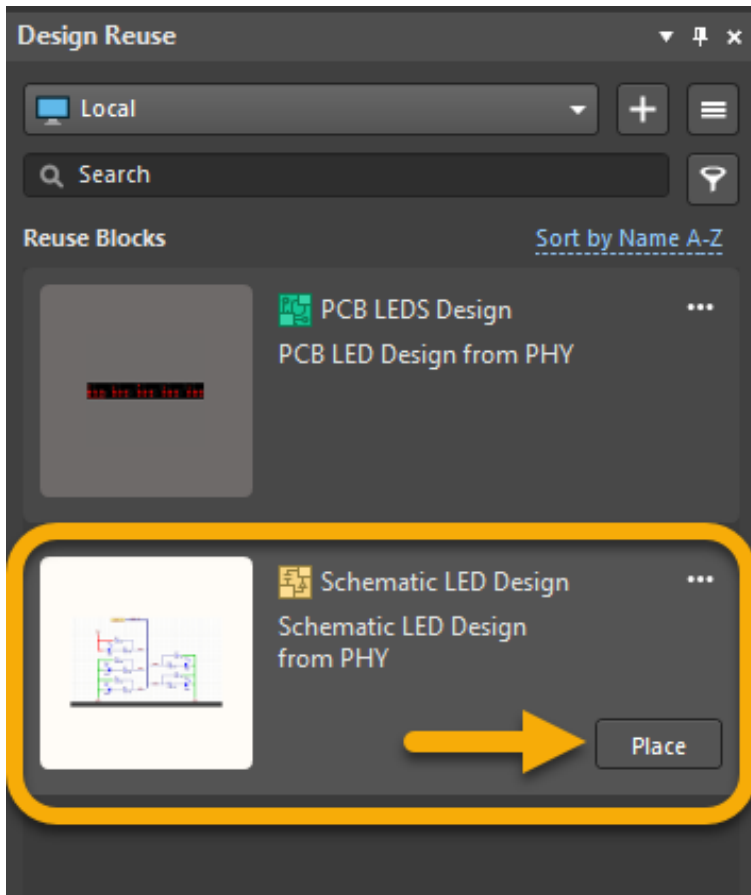

Figure 14. Placing Snippets
39. Select **Place Schematic LED Design** button to place the snippet in the schematic as shown in Figure 14.